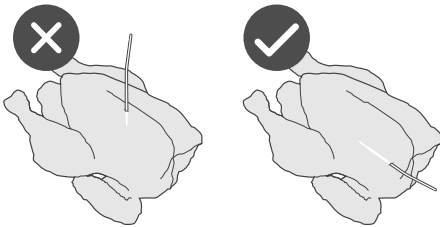

Figure 3.2
- a. For poultry, insert the probe horizontally into the inner thigh or breast. **[Figure 3.2]**